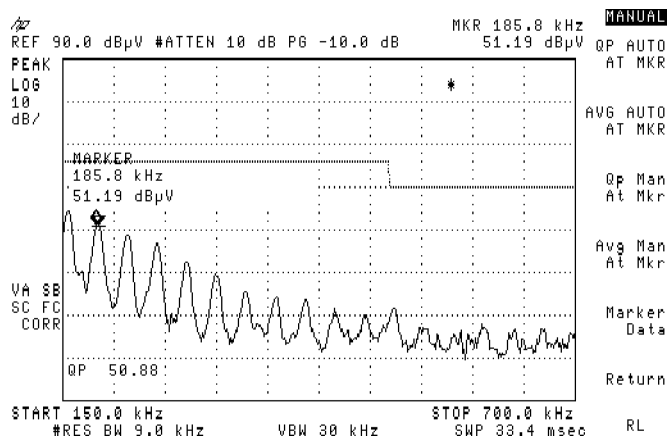

Figure 3-36. Signal after Quasi-Peak Measurement
32. Read the amplitude level at the bottom of the display screen. In our example, the display shows 50.88 dB μ V. See Figure 3-36.